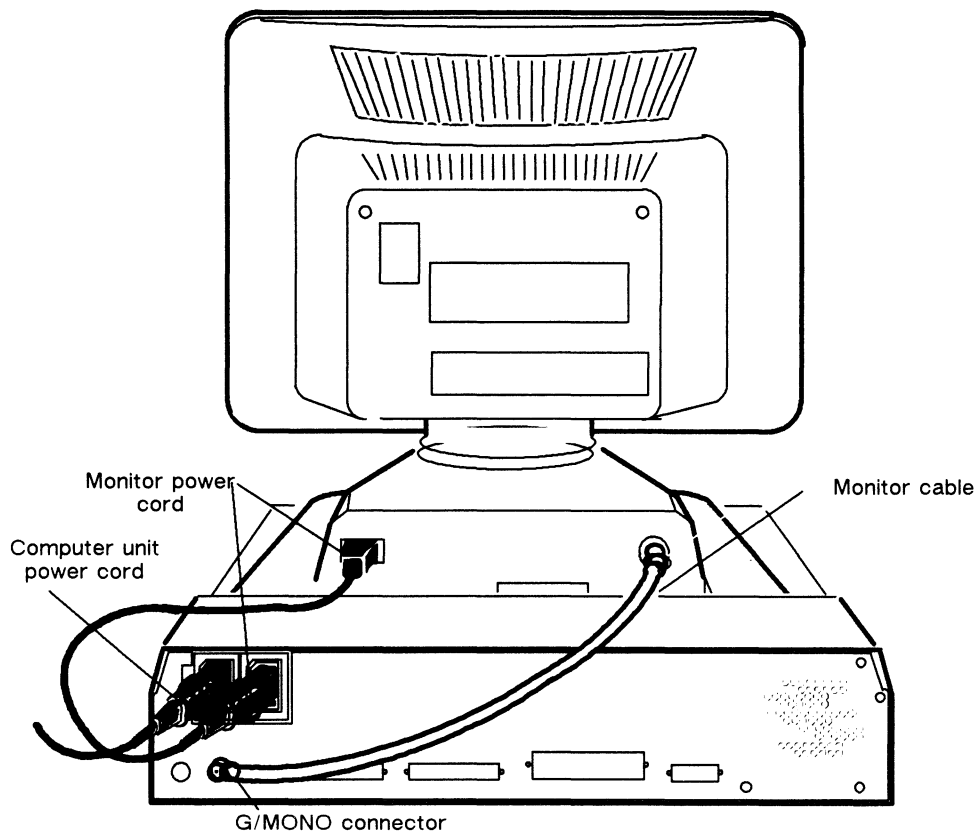

Figure 2-10 Plugging the Monitor Power Cord and Monitor Cable into the Back of the Monochrome Monitor and Computer Unit
3. Plug the female end of the monitor power cord into the ac connector at the back of the monitor as shown in Figure 2-10.
4. Plug the male end of the monitor power cord into the ac connector on the back of the computer unit as shown in Figure 2-10.
6. Plug one end of the monitor cable into the connector on the back of the monitor as shown in Figure 2-10. Turn the end of the cable clockwise to lock it.
7. Plug the other end of the monitor cable into the G/MONO connector shown on the back of the computer unit in Figure 2-10. Turn the end of the cable clockwise to lock it.
8. Plug the female end of the computer unit power cord into the ac connector shown in Figure 2-10. Plug the male end of the power cord into an ac outlet.